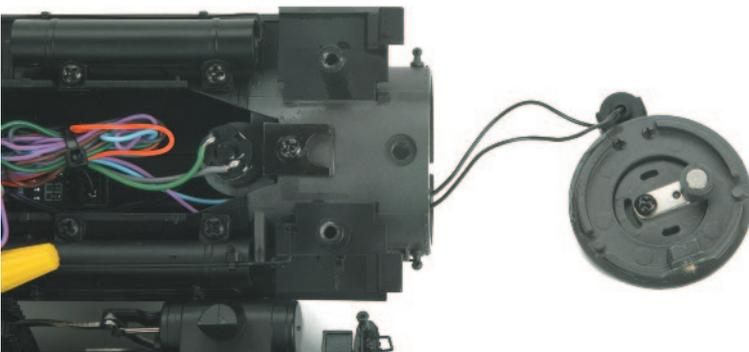

Figure 12
3. Gently pull the bulb from the headlight shell and separate the blue connector inside the smokebox area. (Fig 12)